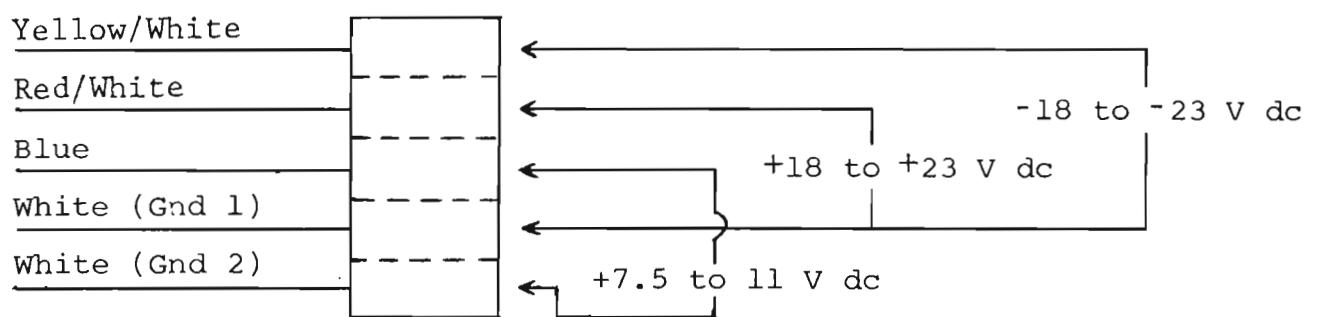

Figure 2-7. Sol-20 power connector and voltage measurements.
- ( ) Check connector on Sol-20 power cable (5-wire) to insure it is wired as shown in Figure 2-7.
- ( ) Measure the voltages at the Sol-20 connector at the point indicated in Figure 2-7. The voltages must be within the ranges given in Figure 2-7. (See preceding NOTE.)